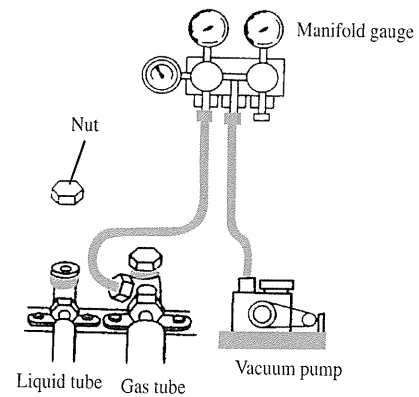

Fig.10
6. If possible, discharge air and moisture remaining in the refrigerant system with a vacuum pump. (shown in Fig.10)